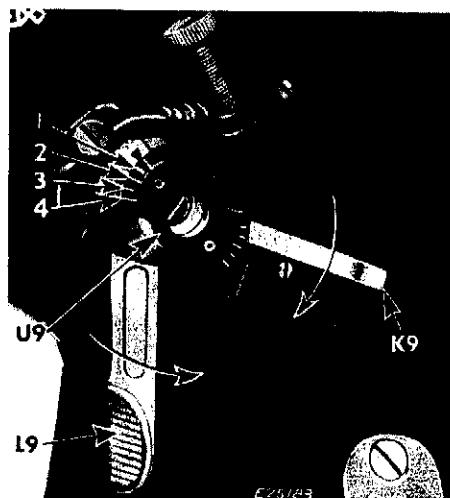

Fig. 202. Bight Control Mechanism (straight stitching)
The sidewise position of the needle during straight or zigzag stitching is determined by the setting of the **needle bar position lever L9**, Fig. 202.
The width of the bight is determined by the setting of the **bight control lever K9**, Fig. 202.
When the bight control lever **K9**, Fig. 202 is at its **lowest position**, the machine is set at **zero bight** and should perform **straight stitching** only as shown in Fig. 197.
The bight control lever **K9** may also be set at positions **#1**, **#2** or **#3** on the Bight Control Scale **U9**, Fig. 202, thus setting the width of bight to one of those shown in Figs. 198, 199 or 200.
**SETTINGS:** Bight control lever **K9** at **lowest** point (ZERO BIGHT) and position lever **L9** at **lowest** point (CENTRAL POSITION), as shown in **Fig. 202.**
**CAUTION:** A machine equipped with **straight stitching** throat plate and presser foot **must always be set as described above.** See **Fig. 202.**